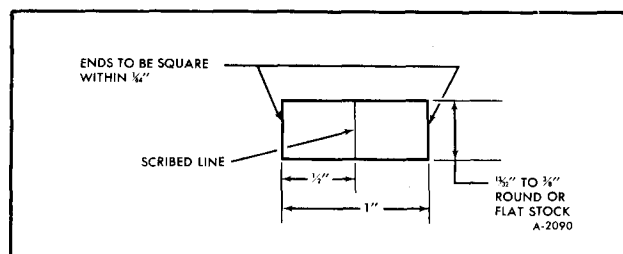

Figure 12—Vacuum Modulator Test Gauge
3. Bellows Comparison Check. Make a comparison gauge, as shown in Figure 12, and compare the load of a known good Hydra-matic modulator with the assembly in question. Modulator Tension Tester such as J-24466 may also be used for this purpose.